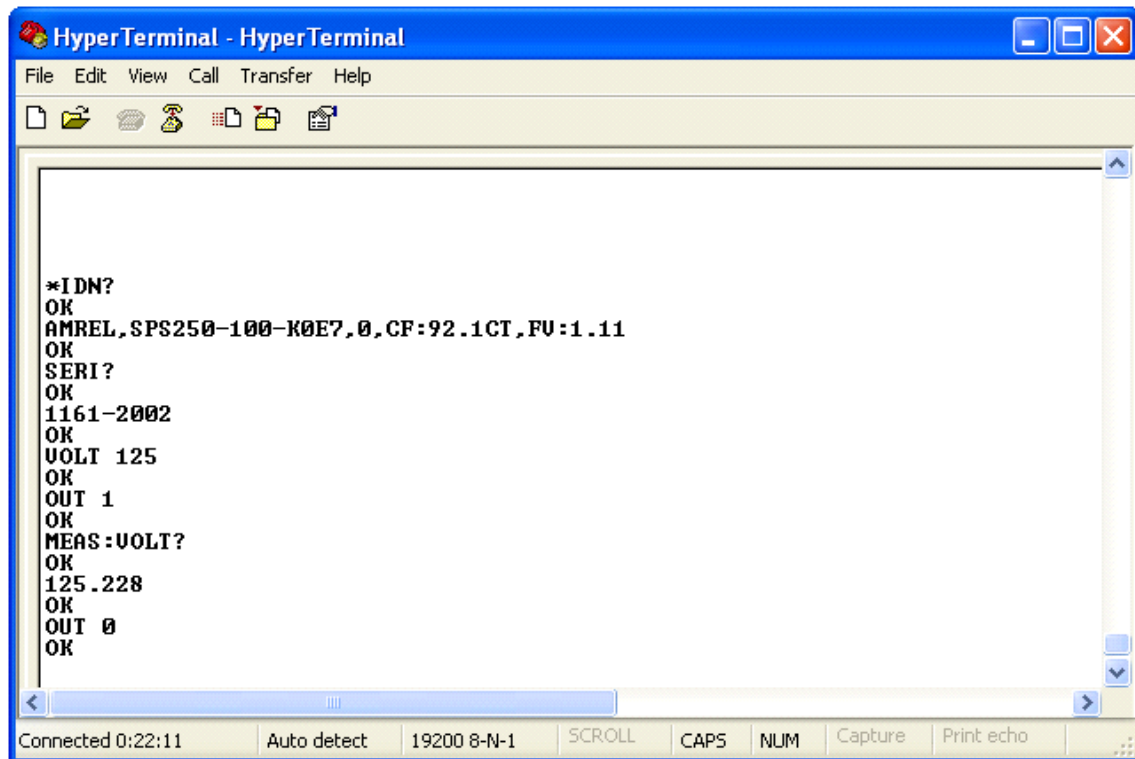

Figure 4.1 RS-232 Communications using Microsoft Windows(tm) HyperTerminal
7. As illustrated in figure 4.1, the returned data will display the following: `Amrel,SPS250-100-K0E7,0,CF:92.1CT,FV:1.11` where the model number may be different depending on the unit being tested.